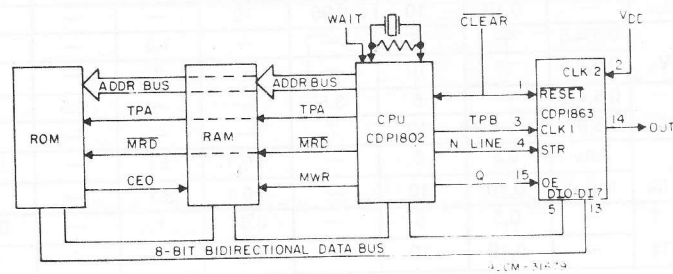

Fig. 1 — Typical CDP1800-series microprocessor system using the CDP1863 and CDP1863C.
The RCA-CDP1863 and CDP1863C CMOS integrated circuits are programmable frequency generators designed to produce 256 possible frequencies from a single-frequency input clock. They will interface directly with the CDP1800-series microprocessor as shown in the system diagram (see Fig. 1).
The programmable frequency generator is directly compatible with the CDP1802 CMOS microprocessor. In Fig. 1 a simple CDP1802 system using this device is shown. TPB may be used as the input clock. At typical CDP1802 system clock frequencies, using TPB as an input to CLK1 results in nearly every possible output of the device being in the audio range. The Q output of the CDP1802 may be used as the OUTPUT ENABLE (OE) of the device. The eight data inputs are connected to the bidirectional data bus which allows the system memory to provide divide rate data to the device. A single N bit or some decoded output of all the N bits may be used as the STR input to latch data into the device. This involves designating some output instruction of the CDP1802 for providing the STR. The output instruction places the data pointed to by the X register on the bus, while simultaneously pulsing the appropriate N bits. By the internal gating of TPB and STR, when TPB is fed into CLK1, the resulting latch clock terminates while the data is still valid on the 8-bit bus. If TPB is fed into CLK2, it is necessary to provide an external AND gate for the appropriate N bits and TPB, to preserve this timing feature. The same signal that feeds the  $\overline{\text{CLEAR}}$  input of the CDP1802 may be used as the  $\overline{\text{RESET}}$  signal to this device.